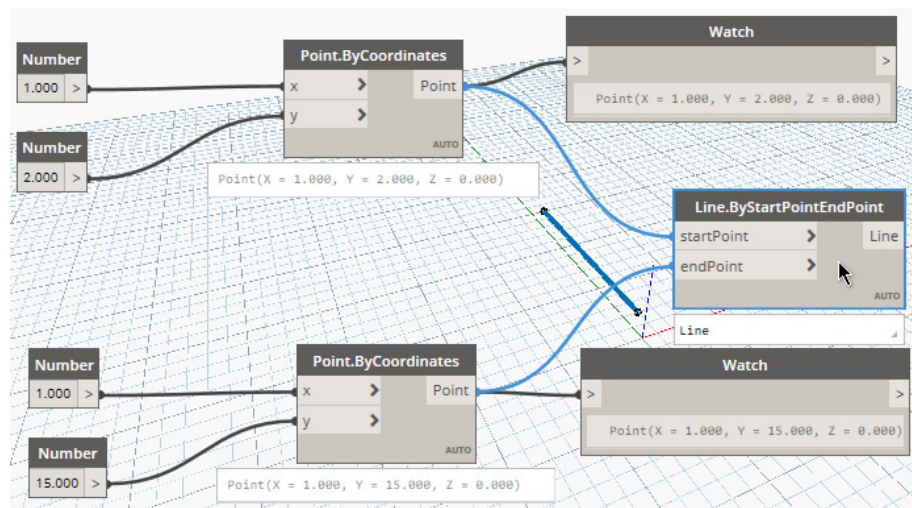

FIGURE 19
16. Wire these to the **Line.ByStartPointEndPoint** node to create a line (see Figure 19).